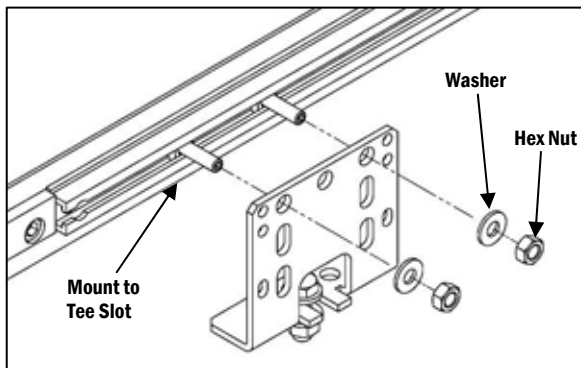

Figure 2
a. For the Tee Slot Mounted version (Figure 2), insert the 1/4-20 Square Nuts in the tee slot, and thread the 1/4-20 x 1" Set Screws into the Square Nuts.
③ Install the Mount to a Steel Stand